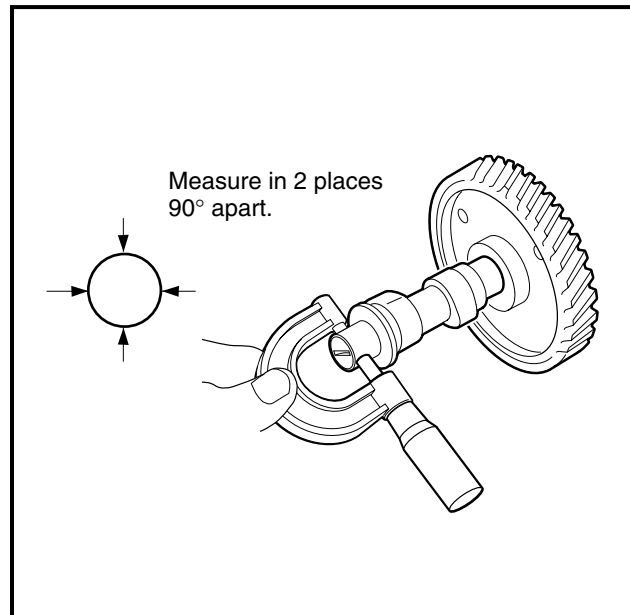
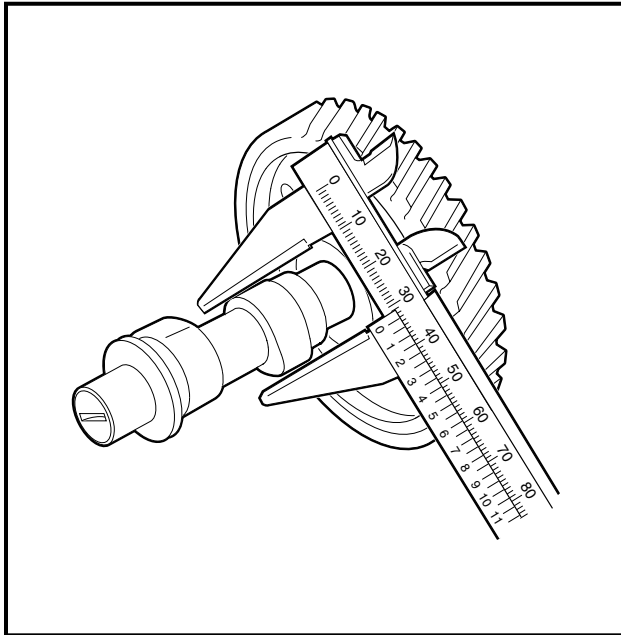

Figure 18-41 Measure O.D. of Camshaft Journals
Figure 18-42 Measure O.D. of Camlobes
5. Measure the camshaft journals and cam lobes with a micrometer at the points shown (**Figure 18-41, Page 18-22 and Figure 18-42, Page 18-23**).
- When installing the camshaft, make sure that the tang (1) on the oil pump rotor seats in the slot (2) in end of the camshaft (Figure 18-42, Page 18-23 or Figure 18-93, Page 18-43). If the oil pump tang is not seated in the slot in the camshaft, serious engine damage will result.